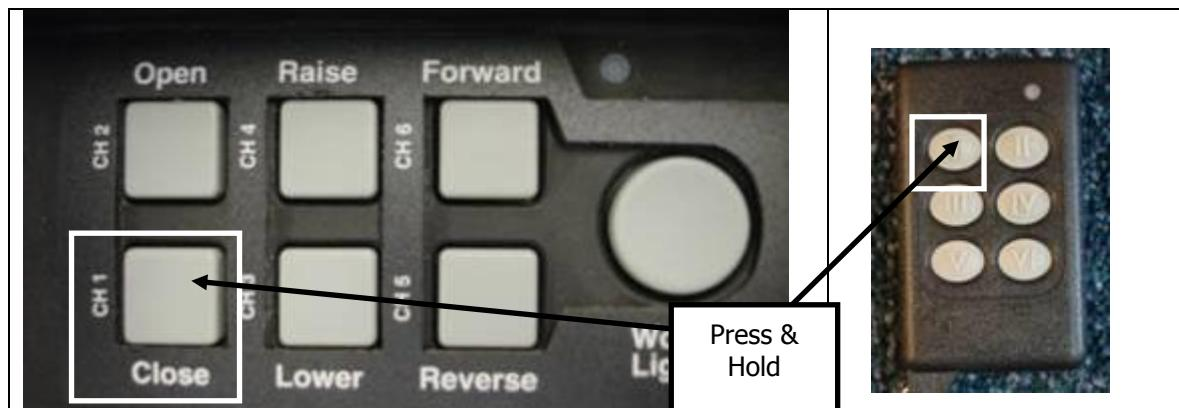

Figure 15
1) Loosen the tarp, uncoil several feet of tarp. To loosen the tarp press & hold button 1 on the control box or the key fob (see Fig 15).